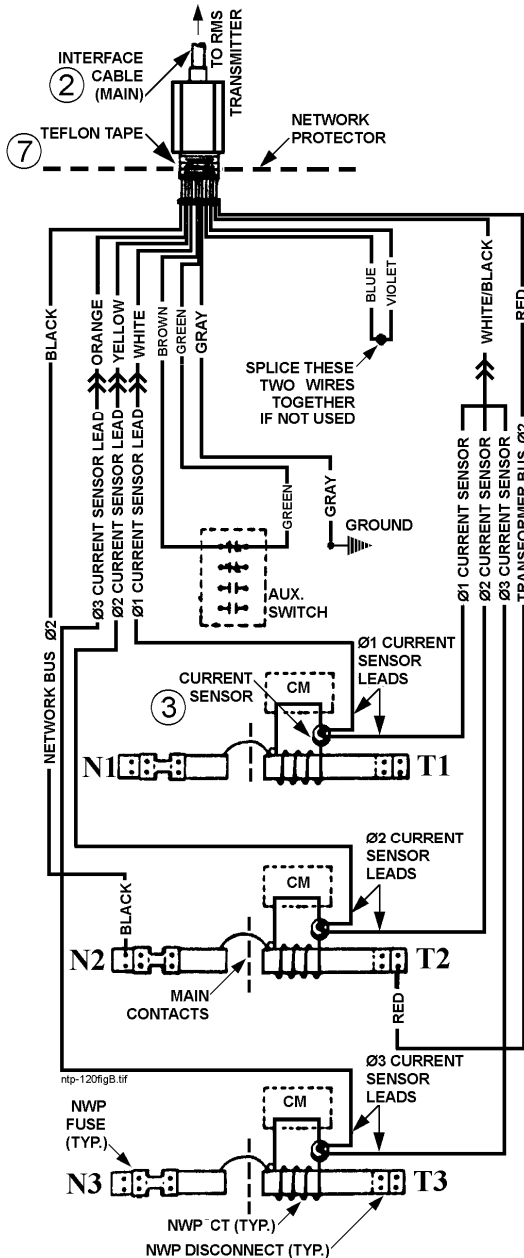

FIGURE 1
2.3.2 Connect the interface cable to the network protector per Figure 1 and the following instructions:
- A. On all pre-1960 Westinghouse network protectors, installation of a microswitch, mounted on the left-hand arc-shoot barriers, is required to obtain a non-used switch position for brown and green wires (see Figure 1).
- C. The loose wires must be passed through an opening in the network protector casing tapped for a 1/2-inch NPT so that the seal is maintained properly. The 12 color-coded wires entering the network protector are connected as follows (see Figure 1):